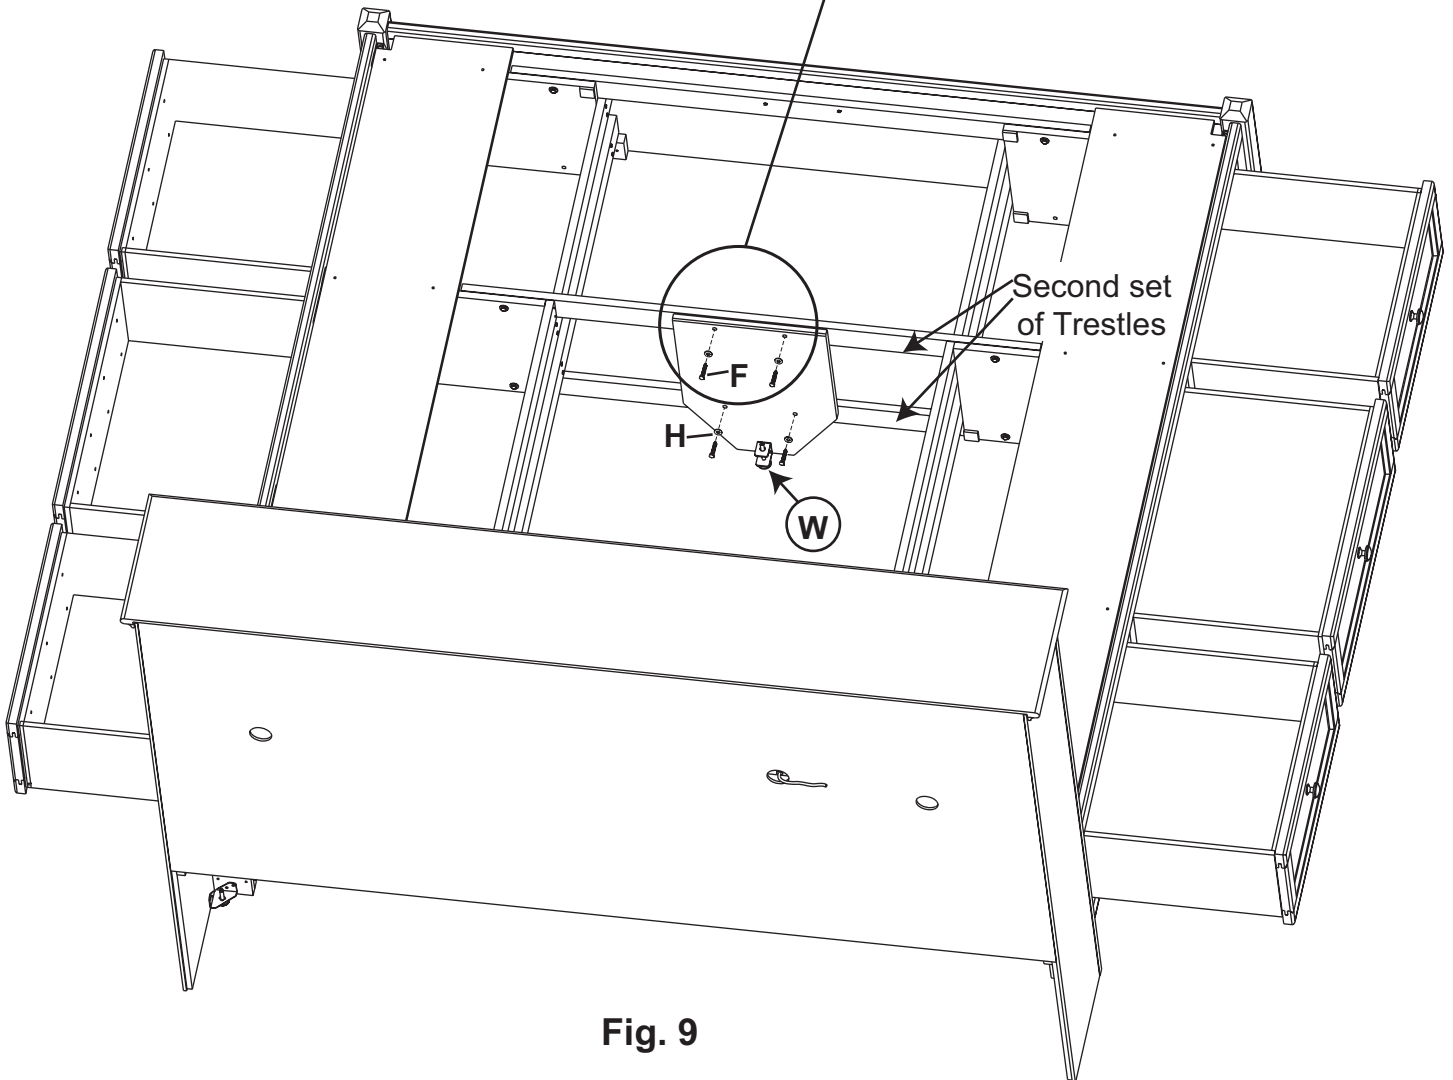

Fig. 9
9. Facing the Footboard, place a Foot Assembly (Ue) on the **inside** of the second set of Trestles and attach with four Washers (H) and four 1/4" x 1-3/4" Hex Bolts (F). See Figures 9 and 9a.